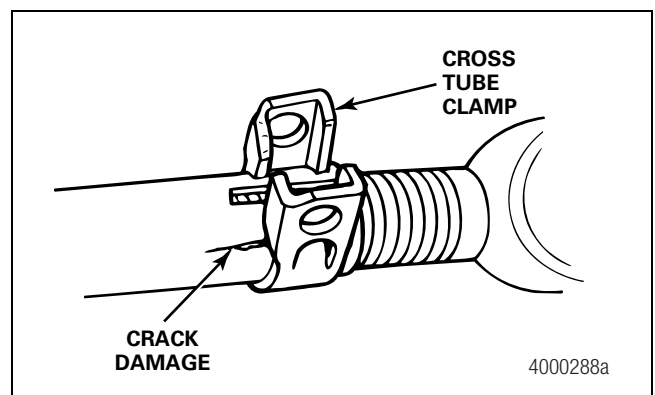

Figure 3.22
11. Inspect the cross tube and clamps for damage. Figure 3.22.
When the roadside check indicates tie rod movement of 1/8-inch (3 mm) or more, immediately remove the vehicle from service to replace the tie rod. Figure 3.22.